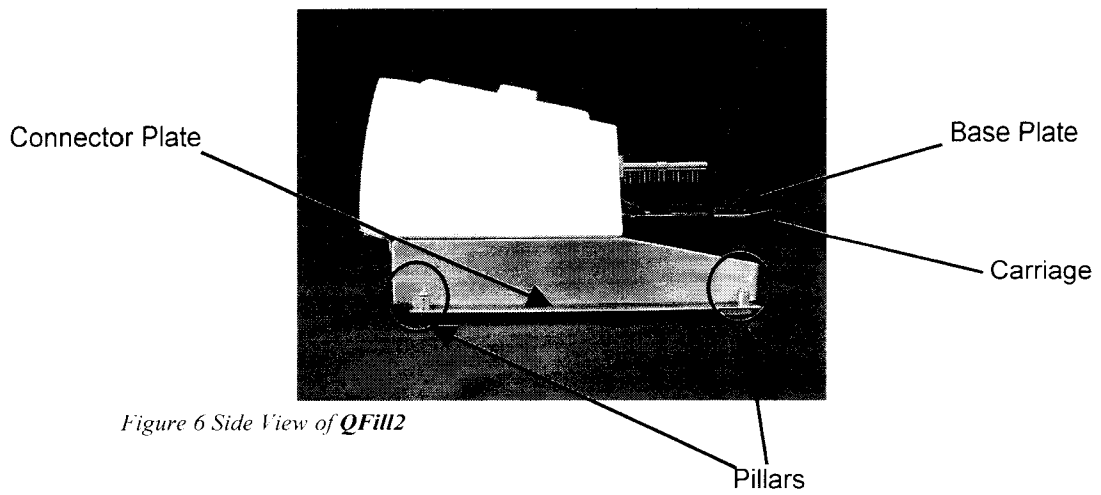

Figure 6 Side View of *QFill2*
1. Screw the base plate onto the **QFill2** carriage (Figure 6).
3. Align the holes in the connector plate with the holes in the base of the **QFill2** and replace the screws so that the connector plate is attached to the **QFill2** with the pillars pointing up (Figure 6).